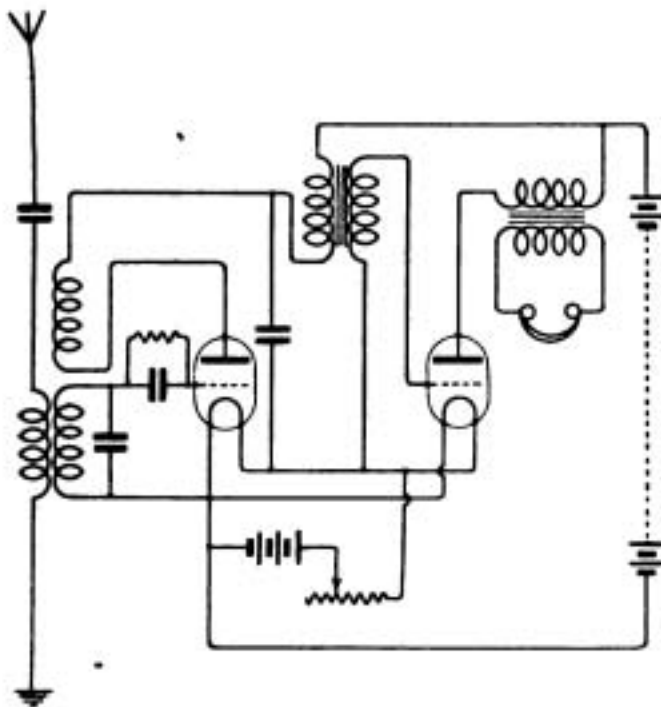

Fig. 5.
G.H.D. (Leigh)—(1) We think you might have completed the filament connections for two valves in parallel from the scores of diagrams of this arrangement which have appeared recently. However, we redraw it in Fig. 5.